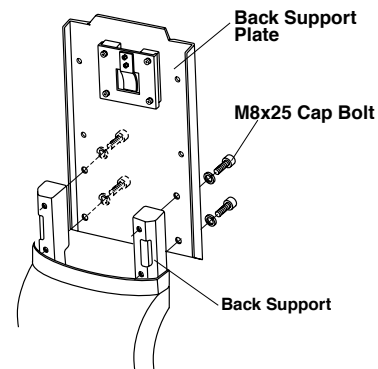

Fig.6-20 Fixing Back Support Plate
(2) Fixing the Backrest
- A. Fix the back support plate to the back support by 4 x M8 cap bolts and spring washers. (Fig.6-20)